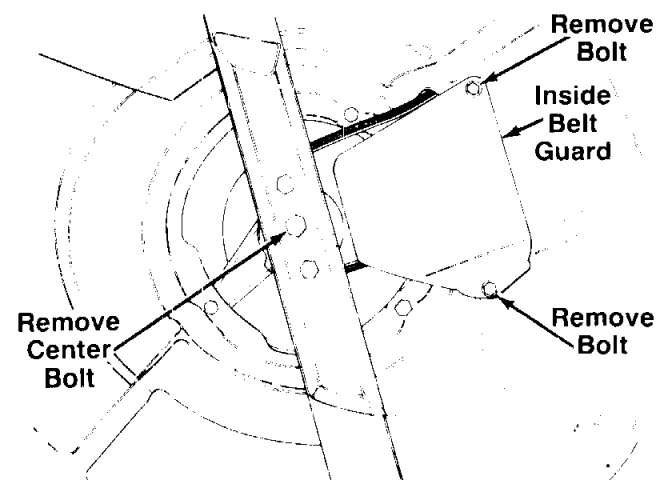

FIGURE 21.
5. Remove the center bolt which secures the blade to the crankshaft. See figure 21. Roll the belt off the pulley. Remove the blade (and blade adapter with pulley).
6. Remove the inside belt guard by removing two self-tapping screws. A 3/8" wrench is required. See figure 21.